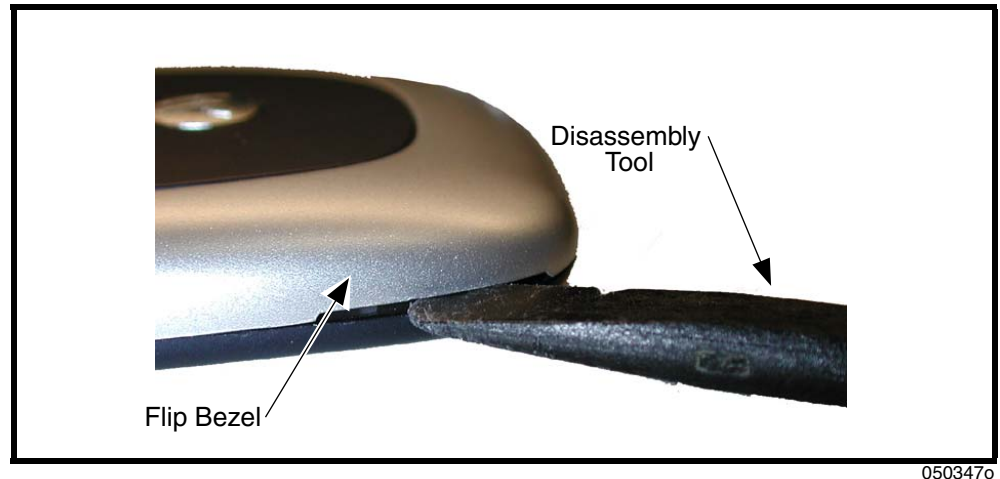

Figure 11. Removing the Flip Bezel
3. Slide the edge of the disassembly tool along the sides of the flip bezel to release the bezel snaps. Be careful not to damage the flip bezel (see Figure 11).